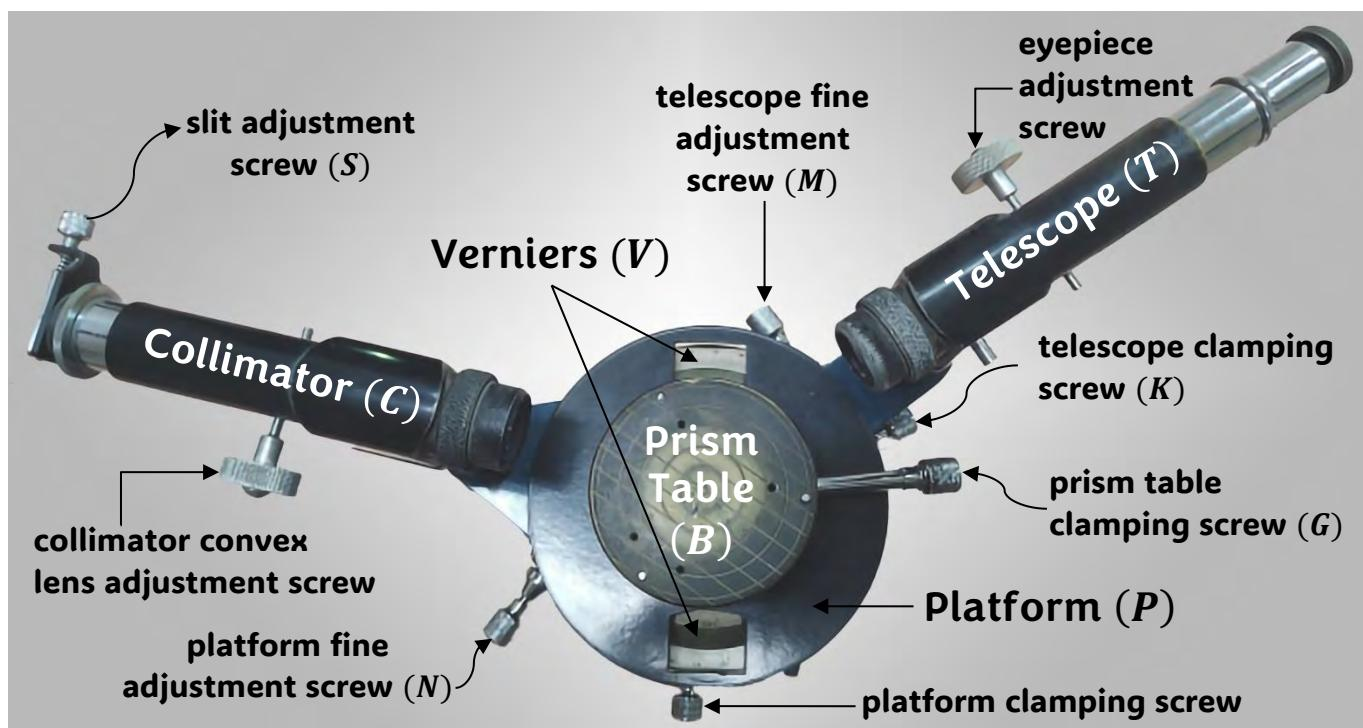

Fig. 4
→ The essential parts of a spectrometer (see fig. 4) are
- 2) Analyze *figs. 4 & 5* carefully. Locate and identify the collimator which has a slit on one end and the telescope, which has the eyepiece at its end.